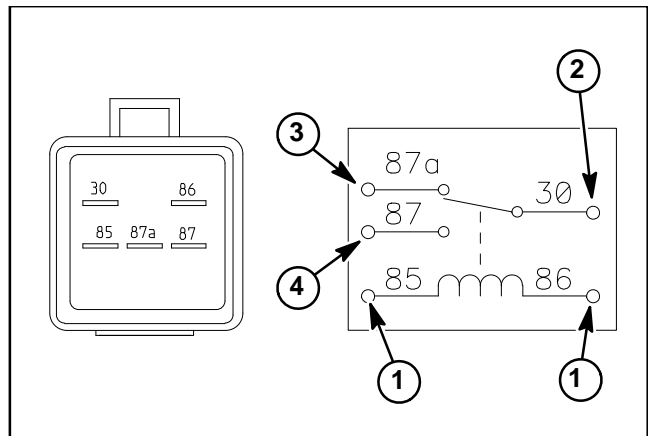

Figure 72
3. The relay terminals are marked as shown (Fig. 72).